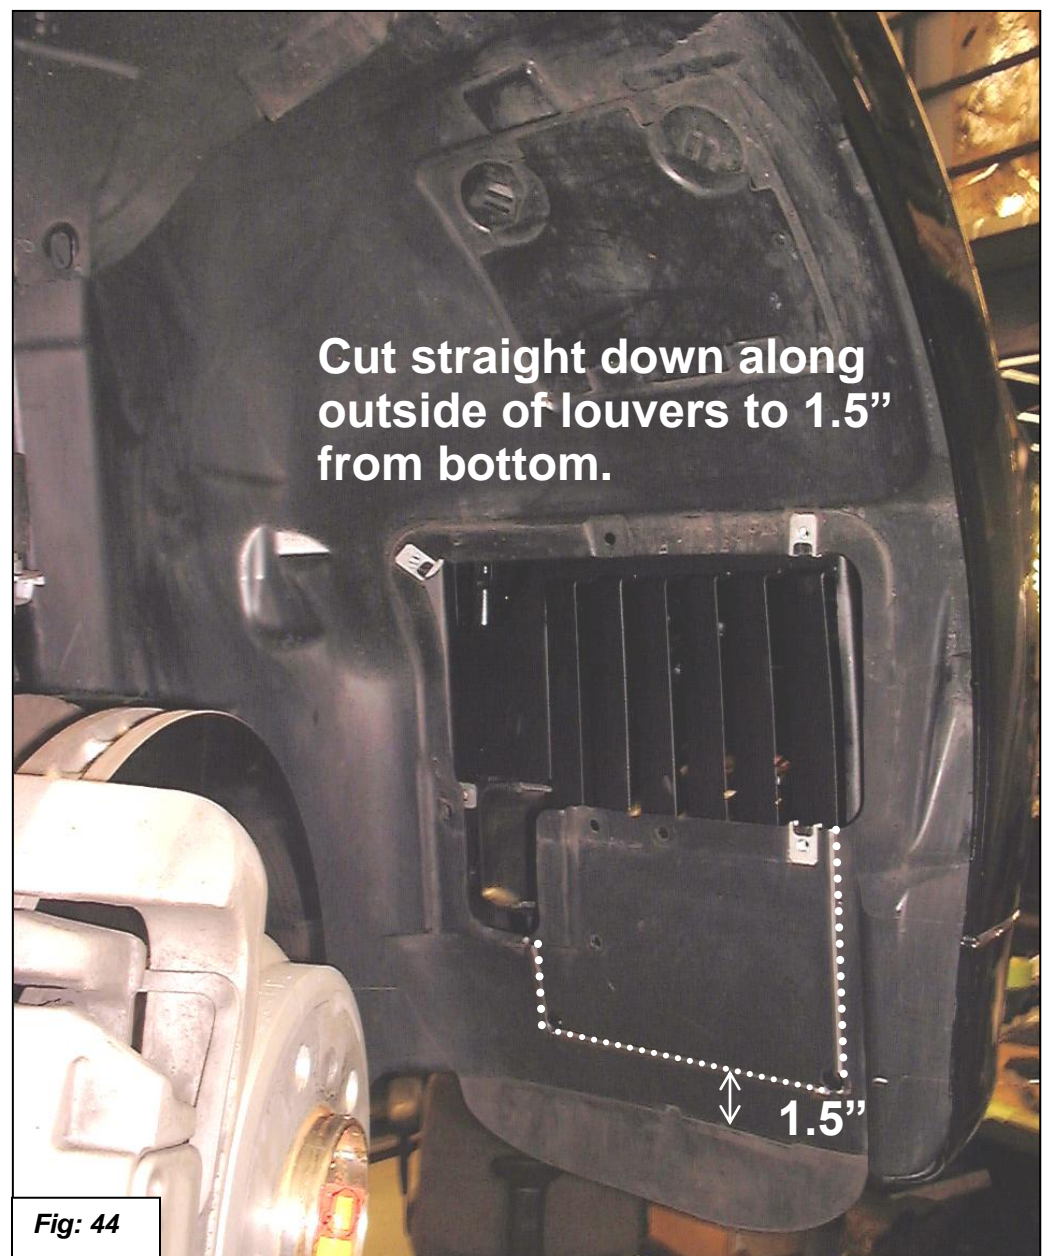

Fig: 44
51. Fit the inner fender into position and mark as shown in figure 44 so you can enlarge the opening for the oil cooler vent.